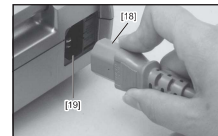

Fig. 5
- Insert the Power Cord [18] plug into the Power Connector Assembly [19] on the back of the CONTROLLER securely and carefully align the pins (Fig. 5).